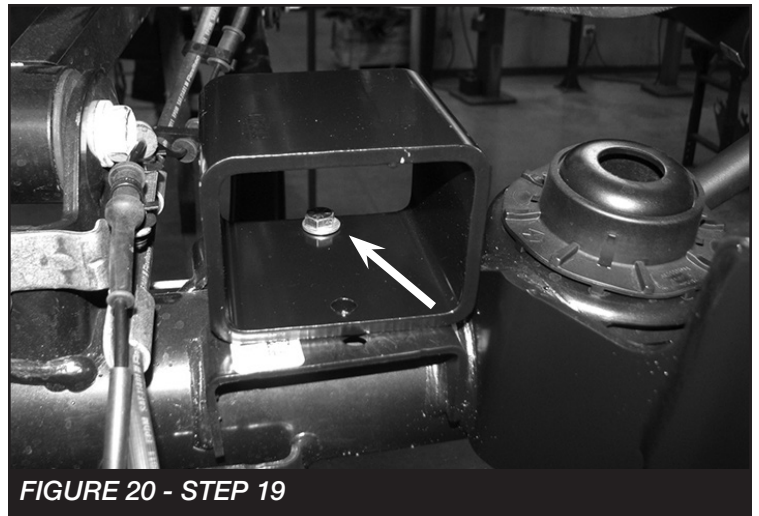

FIGURE 20 - STEP 19
19. Locate FT50401BK (Rear bumpstop spacer) and the supplied 5/16 x 1" hardware. Use the 5/16" bolt and line up the Fabtech bumpstop spacer onto the pad by using the existing forward hole. **SEE FIGURE 20.** Next, mark the rear hole and remove the bumpstop to drill using a 3/8" drill bit. **SEE FIGURES 21-22.**